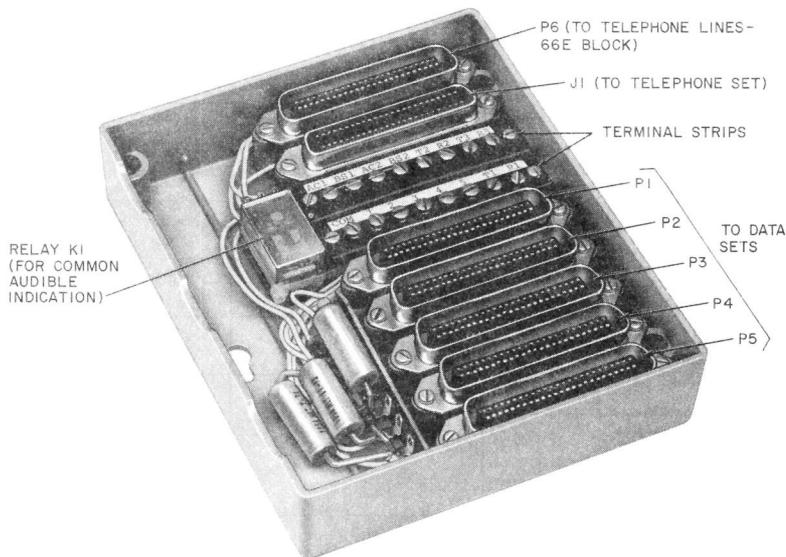
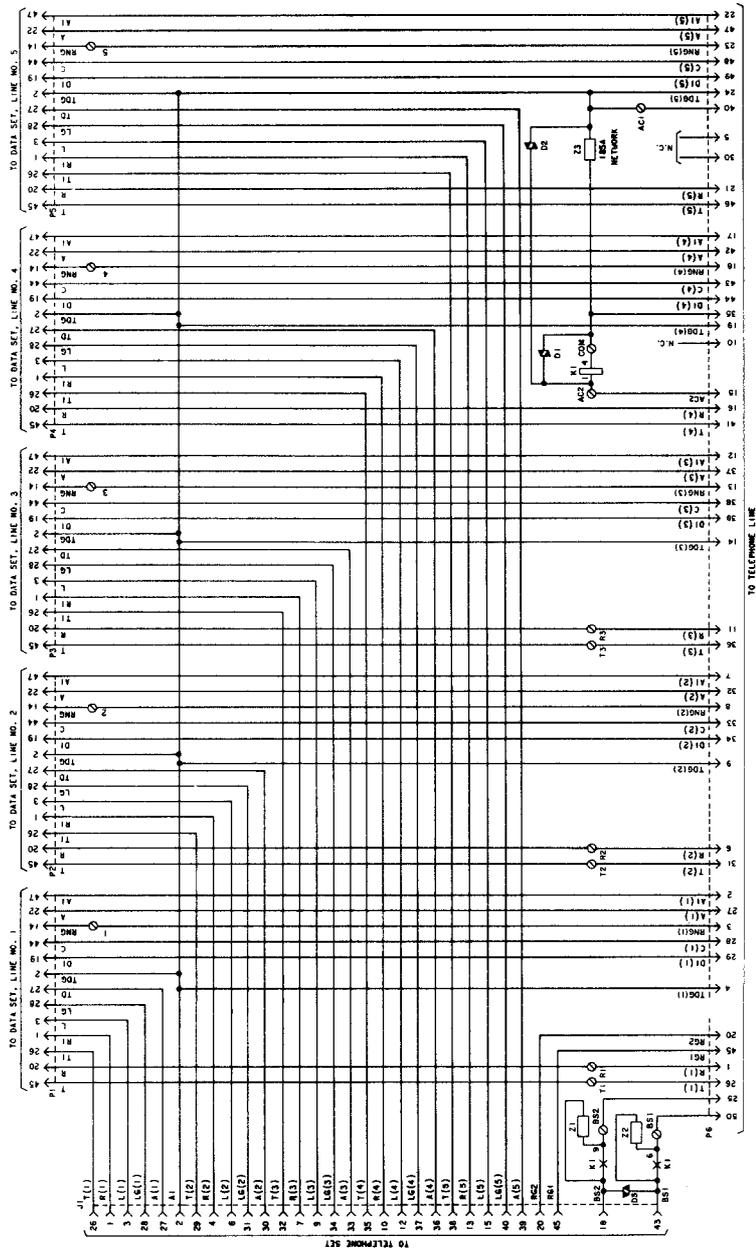

Fig. 13—KS-21253, L3 Line Interface Adapter With Cover Removed
Fig. 14—Wiring Diagram—KS-21253, L3 Adapter
**4.04** A multiple data set **without ACUs** is shown in Fig. 5. This arrangement requires the use of a KS-21253, L3 line interface adapter (Fig. 13) which allows up to five data sets to be associated with one telephone set. A wiring diagram of the KS-21253, L3 line interface adapter is given in Fig. 14. The data set(s) are connected to plugs P1 through P5 of the KS-21253, L3 adapter via M13F cord(s) and the telephone set cord is connected via connector J1. Tip and ring leads of the data set(s) are fed via the B25A cable between plug P6 of the KS-21253, L3 adapter and the 66E-type connecting block where they are cross-connected to the telephone line(s) to the switched network.